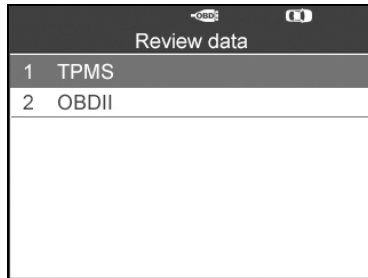

Figure 8.1
Use the **UP/DOWN** and **LEFT/RIGHT** scroll button to select **Review Data** from Main Screen (Figure 3.1), and wait for the review data menu to appear.(Figure 8.1)
- 1) Use the **UP/DOWN** scroll button to select **TPMS** or **OBDII** from **Review Data** and press the **Y** button. (Figure 8.1)